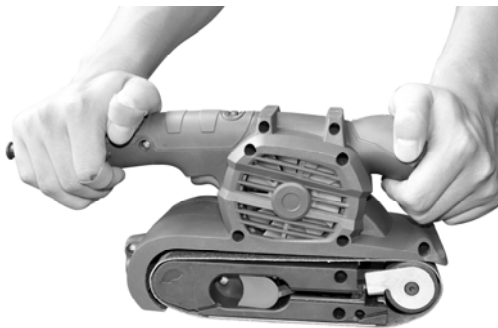

Fig.6
1. Hold the sander firmly with both hands.(Fig.6)